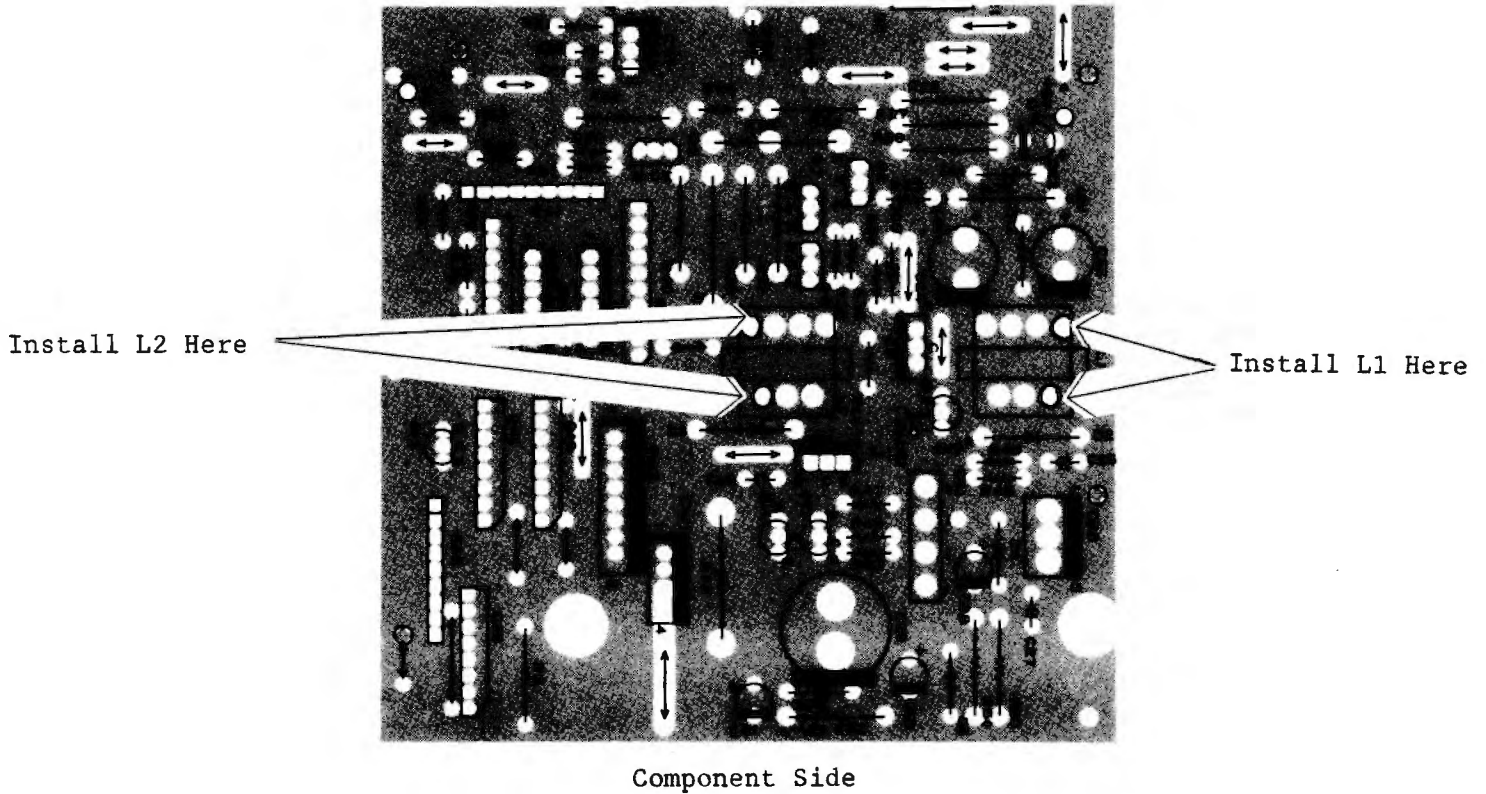

Figure 3
- 4.) Install one of the round style inductors at location L1 in the holes closest to the outside edge of the board. See figure 3.
- 5.) Install the second round style inductor at location L2 in the holes closest to the middle of the board. See figure 3.